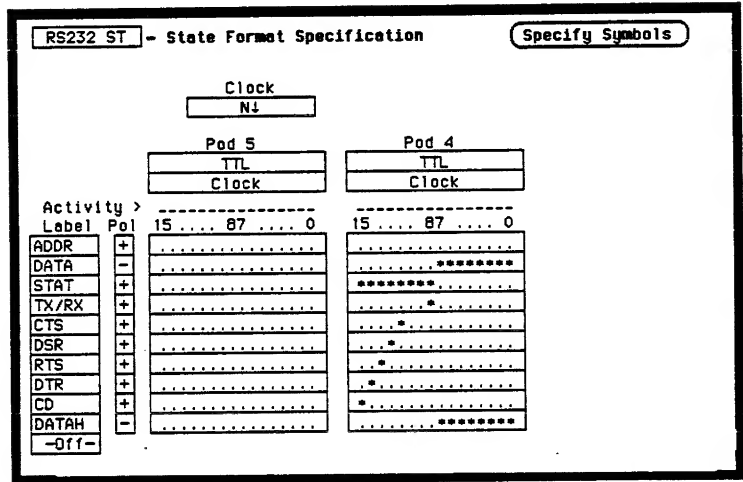

Figure E-1. Format menu for Analyzer 2
8. Bring up the Format menu of Analyzer 2 and set up the labels and configuration for pods 4 and 5 as shown in figure E-1.
9. Assign the following edge of the N clock to pods 4 and 5 as shown in figure E-1.